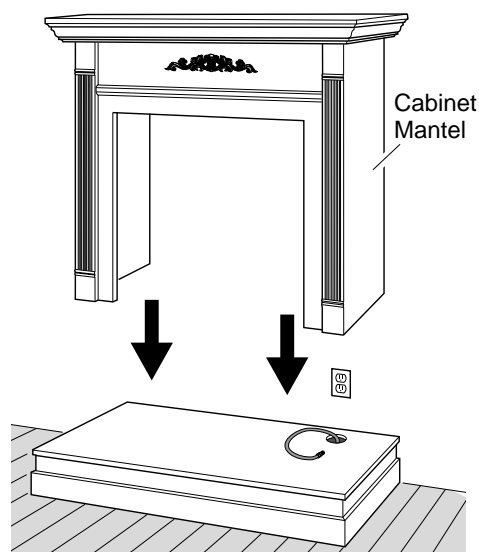

Figure 30 - Installing Cabinet Mantel
6. Center cabinet mantel on hearth base (see Figure 30). Make sure mantel is flush against wall.